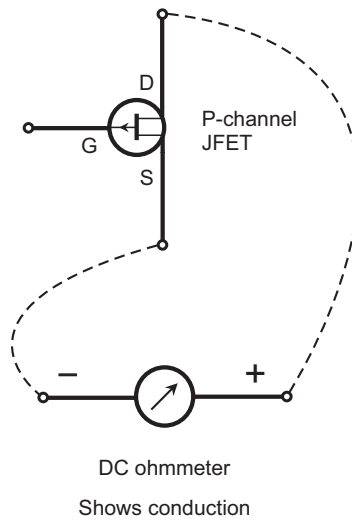

FIGURE 7-28 Electrons should flow from the source to the drain.
5. Electrons should flow from the source to the drain (Fig. 7-28).